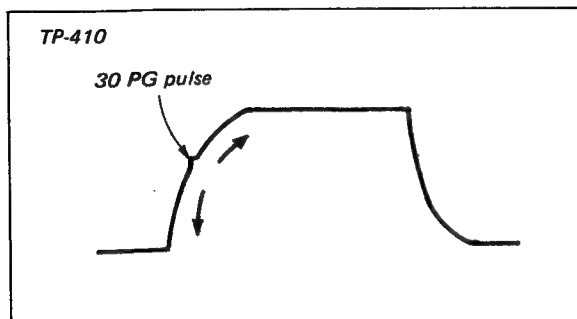

Fig. 6-5. Servo response-time adjustment
5. Adjust R454 to set the position of the 30 PG pulse with respect to the 30 Hz multivibrator ramp as shown by "T" in Fig. 6-5.
3. Set the Function Lever to STOP (release the RECORD button) and wait until the rotating head stops turning completely. Then, depress the RECORD button. Observe the waveform on the scope. The PG pulse will move up and down a few times and then lock on the 30 Hz multivibrator ramp as shown in Fig. 6-5.